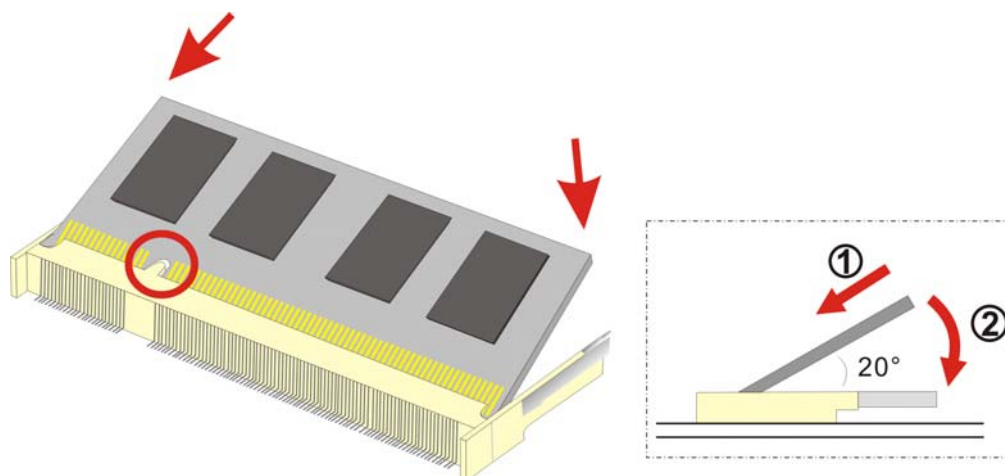

Figure 4-1: SO-DIMM Module Installation
Step 2: Push the SO-DIMM chip into the socket at an angle. (See **Figure 4-1**)
Step 3: Gently pull the arms of the SO-DIMM socket out and push the rear of the SO-DIMM module down. (See **Figure 4-1**)